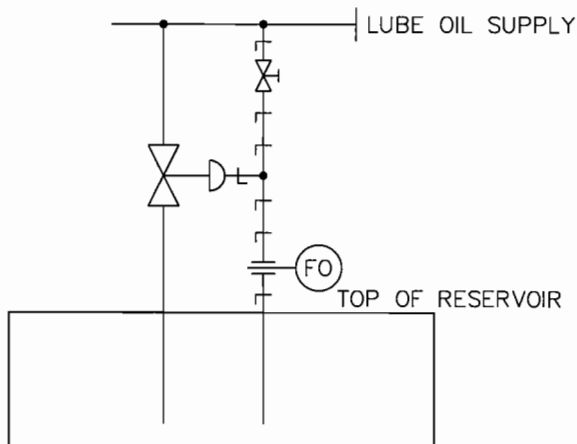

Figure 10. Pressure Control Valve with External Pilot Vented to Reservoir.
- External pilot valves should have needle valves to isolate the pilot and the actuator of the control valve should be drained to the reservoir below the oil level (Figure 10). This is a requirement of API 614 and is especially important in cold applications. The orifice allows for warm oil to maintain temperature at the valve head. Since this line is now a dynamic or flowing line, the operation is much smoother and the actuator level is repeatable.